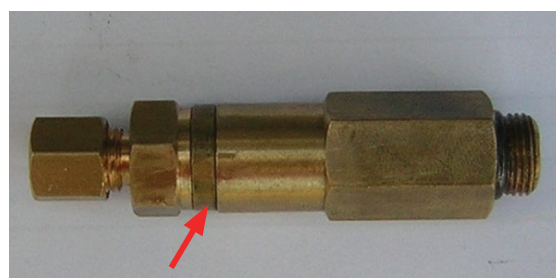

Figure 31. Meter Unit fitted with spacer
Figure 31 illustrates a new metering unit, one that has not yet been filled with grease. Item (1) in this figure is the spacer, which determines the delivery of the metering unit.